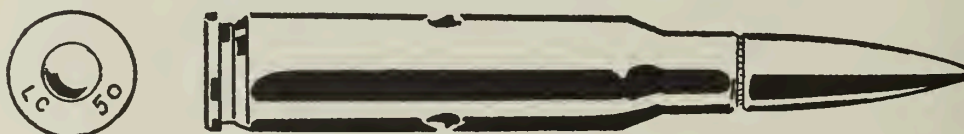

Figure 79.--Ammunition for the M60 Machinegun.
b. Identification. --The type, caliber, model, and ammunition lot number, including the symbol of the manufacturer, are necessary for complete identification of small arms ammunition. The 7.62mm NATO cartridge is completely identifiable by its appearance: the painting of the bullet tip, the stamping of the manufacturer's initial and year of manufacture on the base of the cartridge case, and the markings on the packing containers. When removed from their original packing containers, the cartridges may be identified by physical characteristics as follows: (See fig. 79.)